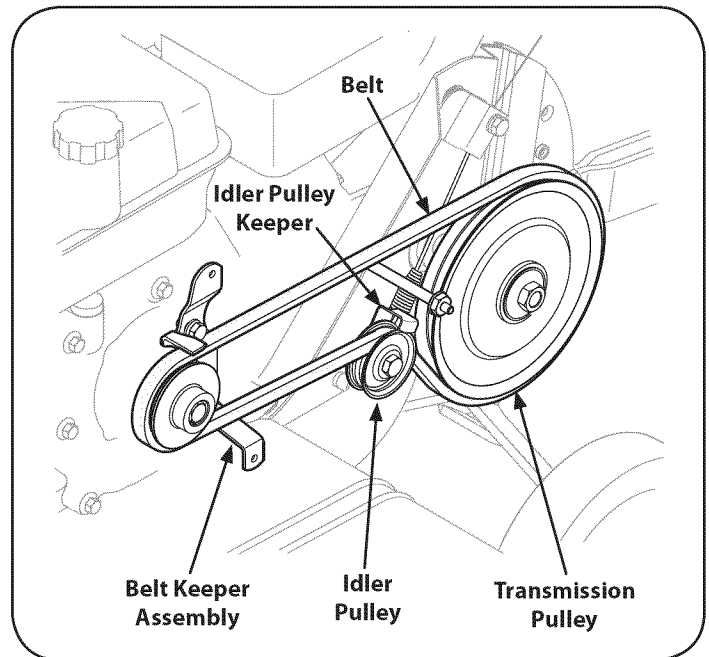

Figure 28
2. Remove the idler pulley bolt and move the belt from under the idler pulley keeper. See Figure 28.
3. Remove the belt keeper assembly located behind the engine pulley by removing the two hex bolts and lock washers. See Figure 28.
4. Remove the old belt from around the transmission pulley and install the new belt. See Figure 28.
**NOTE:** Upon reassembly, make certain that the idler pulley keeper is as shown in Figure 28. Take note of the notch on the bottom of the keeper and the alignment when reassembling with the replacement belt.